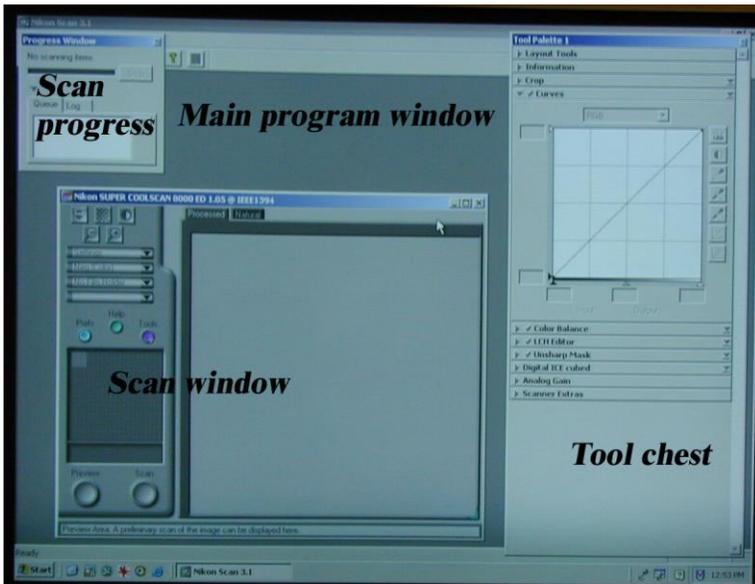

Figure 5. Nikon Scan program windows
6. **Find scan window** (Figure 5) with various controls within the main window of the scan program (it may be minimized at the lower left corner).
8. **Check the orientation** (letter “R” in the upper left), **image size in pixels** (8,964x13,356) **file size** (should be 288 MB), **Digital ICE** (Off), **Multi Sample** (1x) and **Bit Depth** (14).